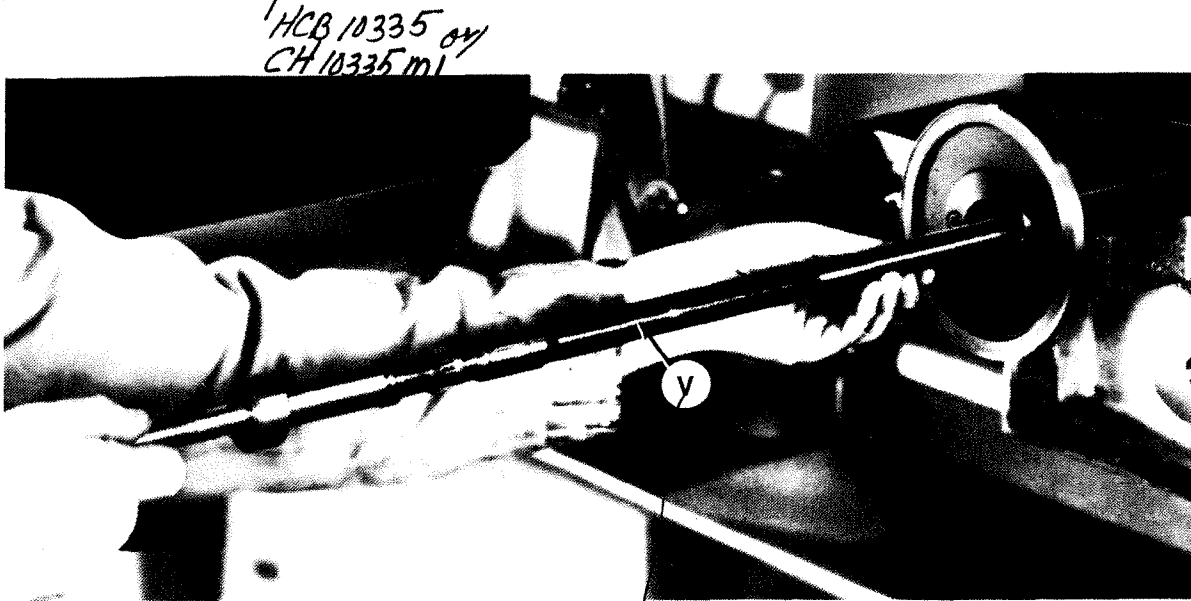

Figure 2.9 - Cross Feed Screw Removal
16. Remove cross feed screw "V", Figure 2.9 .
2. Install cross feed screw "V", Figure 2.9 .